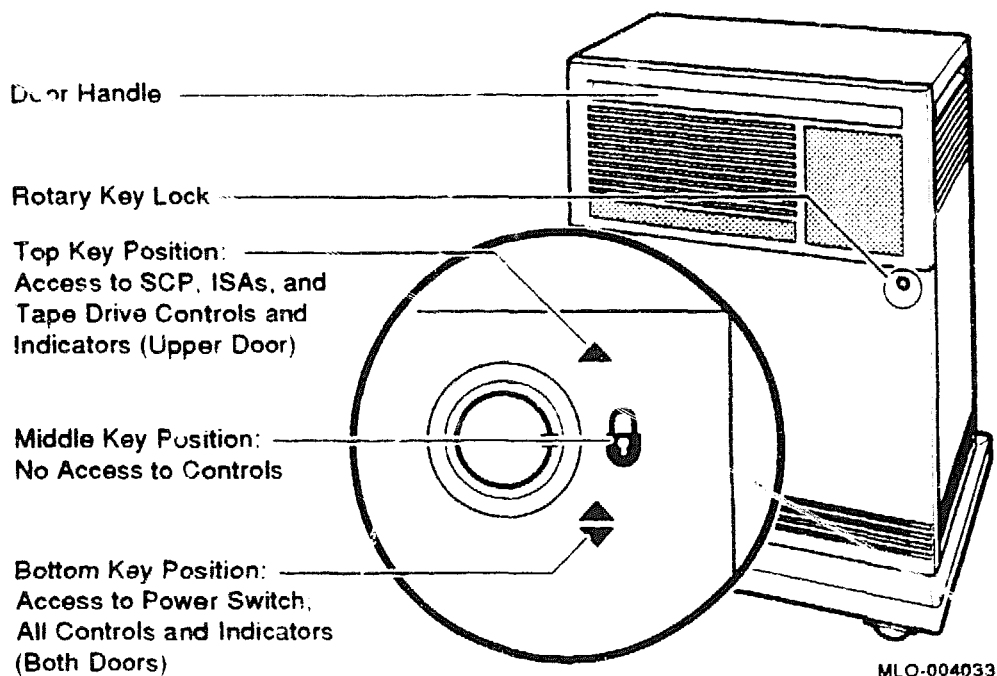

Figure 2-1 Pedestal Rotary Key Lock
1. Unlock the system door by turning the rotary key lock (Figure 2-1) to position three (lowest position). This unlocks both the top and bottom halves of the door. Swing the door open.